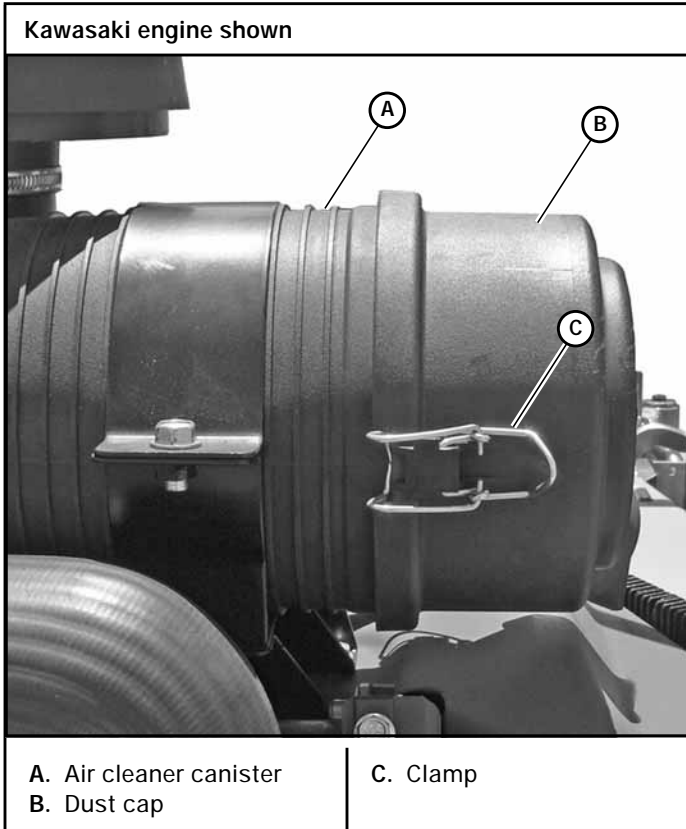
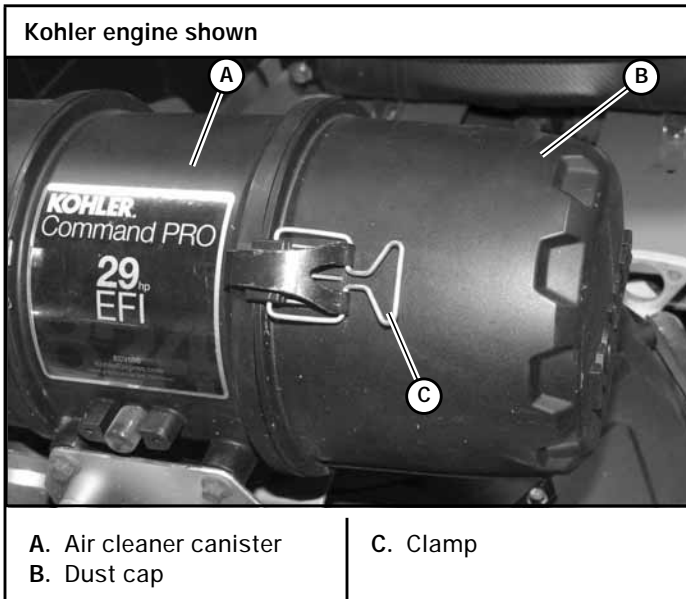

Figure 7-6
Figure 7-7
3. Reinstall the dust cap. Make sure it seals all the way around the air cleaner canister, then tighten the clamps. Figure 7-6 & Figure 7-7